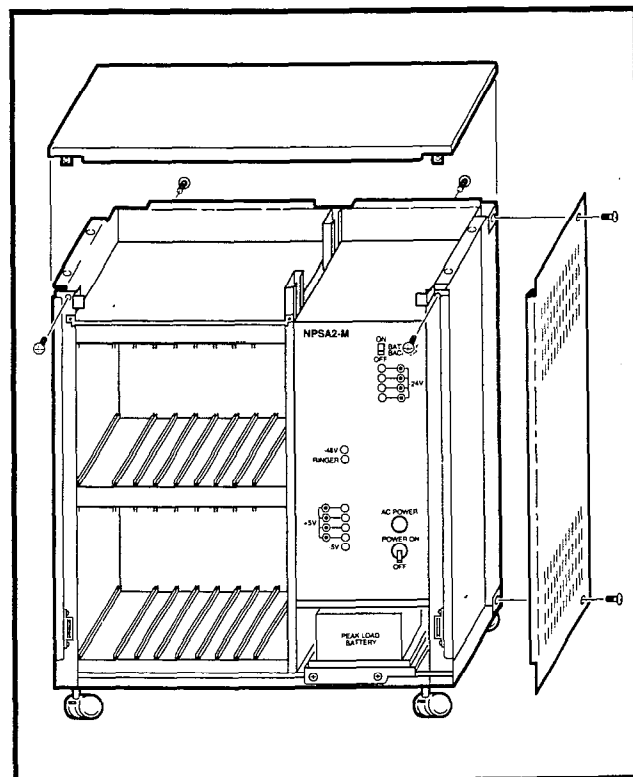

FIGURE 4-6—PERCEPTION_e EXPANSION CABINET INSTALLATION
- 1) Remove and retain the four screws securing the basic cabinet top cover and lift the cover off the cabinet (Figure 4-6).